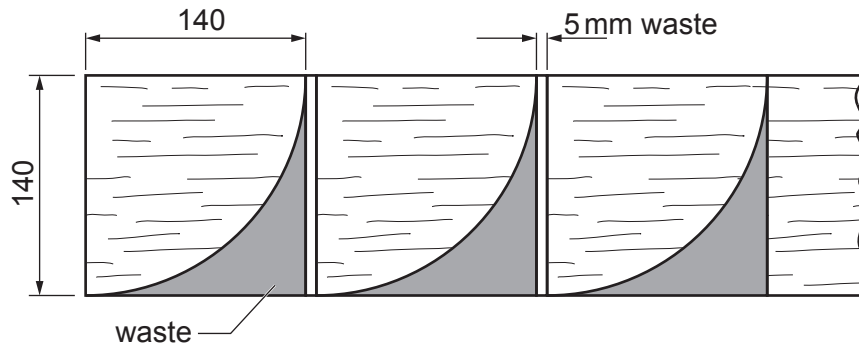

Fig. 13.3
- (c) Fig. 13.3 shows the ends and the centre piece of the desk organiser marked out on a length of hardwood ready to be cut and shaped.